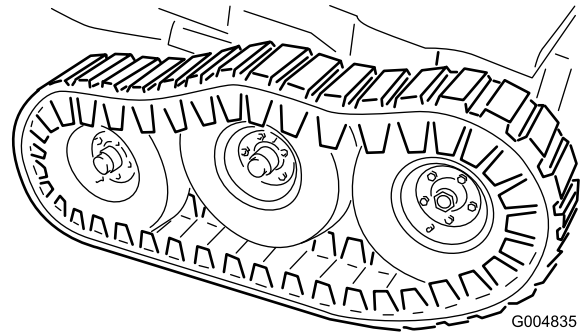

Figure 55
22. Lower the floor jack until the front wheels support the frame. Install the flat washers (1/2 inch) and locknuts on the bogie pivot stud (Figure 55) and torque to 75 ft-lb (102 N·m).